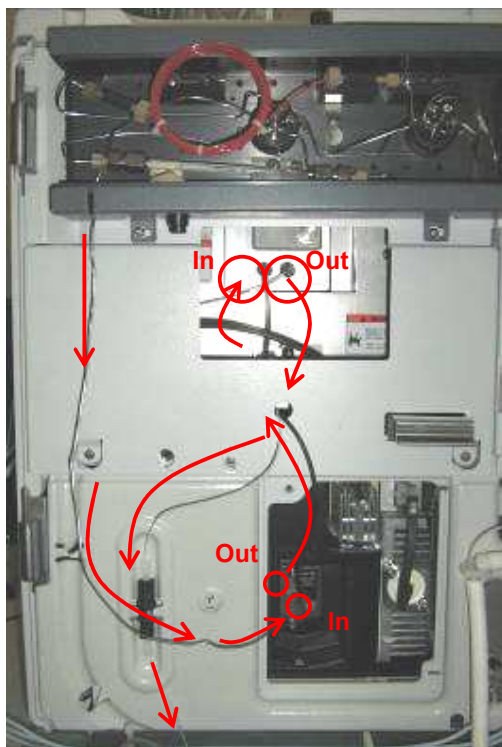

Figure 18: Plumbing the FL detector
19. Reconnect the plumbing to the column oven (reverse of step 3). The tubing coming out of the column oven should connect into the *IN* of the flow cell in the UV/Vis (Absorbance) Detector. The *OUT* of the flow cell is connected to the *IN* of the Fluorescence detector using the black tubing coming from the Fluorescence detector. The *OUT* of the Fluorescence detector then connects to the 40 PSI back pressure regulator which ends up in the waste container (Figure 18).